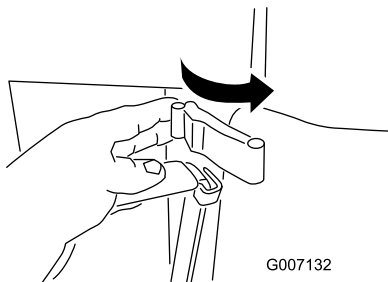

Figure 39
1. Pull out and forward on the latches on both sides of the traction unit (Figure 39).
2. Place the latches over the locking brackets on each side and secure them (Figure 39).